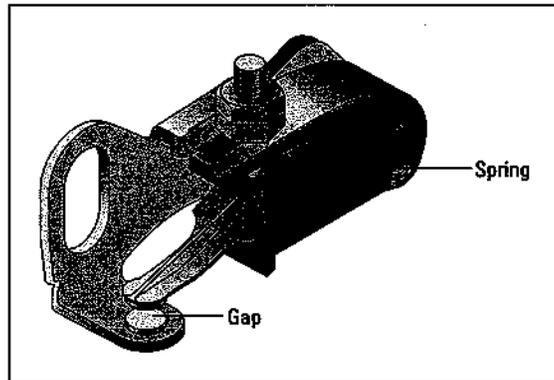

Figure 12-28:
- ⊘ The points on your vehicle may look a bit different from the ones in Figure 12-28, but they work the same way. Here's a rundown of some basic types of points that you may encounter: